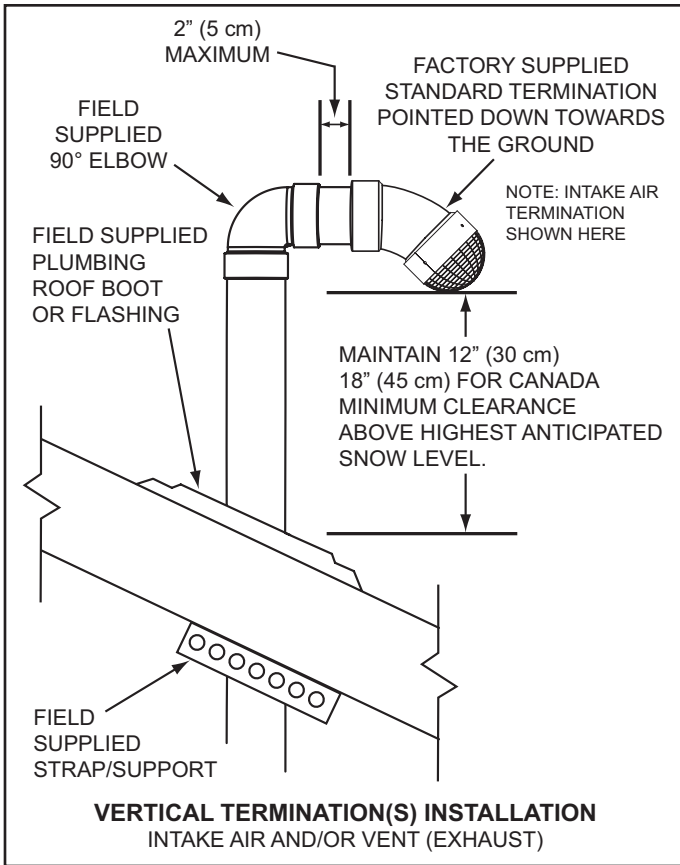
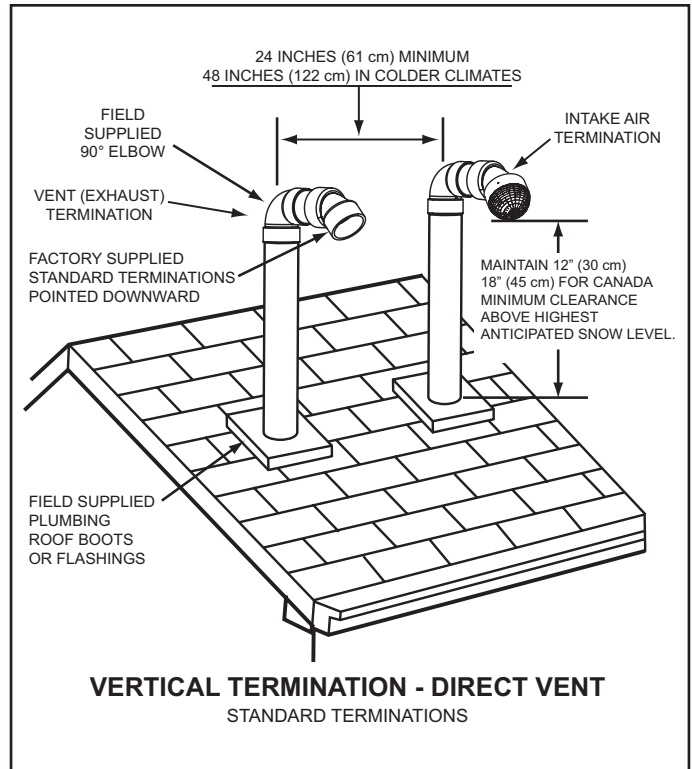
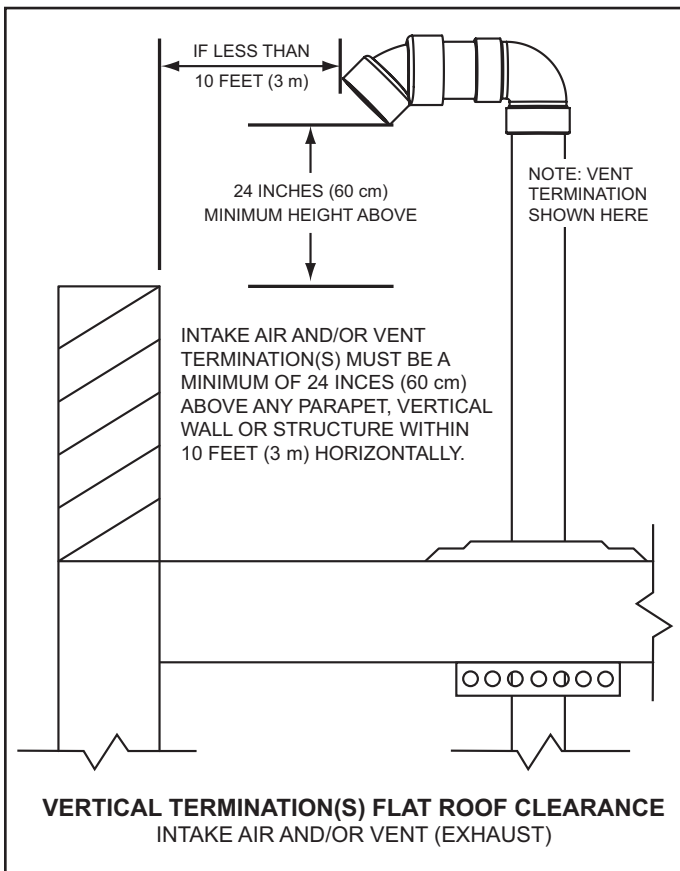

Figure 19
Figure 21
Figure 20
2. If installing only the vent (exhaust) piping in a Power Vent configuration vertically through the roof; ensure that all exterior vertical clearance requirements shown in Figure 19 and Figure 20 on page 26 are being maintained. These clearances and those cited by local and national codes must be maintained.
NOTE: On flat roof installations the vent termination must be a minimum of 24 inches (60 cm) above any parapet, vertical wall or structure within 10 feet (3 m) horizontally. See Figure 20 on page 26.
3. If installing both intake air and vent piping in a Direct Vent configuration vertically through the roof; ensure that all exterior vertical clearance requirements shown in Figure 19 and Figure 20 on page 26 are being maintained. These clearances and those cited by local and national codes must be maintained.
NOTE: On flat roof installations the intake air and the vent terminations must be a minimum of 24 inches (60 cm) above any parapet, vertical wall or structure within 10 feet (3 m) horizontally. See Figure 20 on page 26.
The vent termination must be oriented facing downward as shown in Figure 19 and Figure 20 on page 26.
The bottom edge of the vent termination must be a minimum of 12 inches (30 cm), 18 inches (45 cm) in Canada, above the average or expected snow level as shown in Figure 19 on page 26.
The intake air and vent pipes must penetrate the same side of the roof as shown in Figure 21 on page 26.
The intake air and vent terminations must be oriented facing downward and in the same direction as shown in Figure 21 on page 26.
The intake air and vent terminations must have a minimum separation of 24" (61 cm) measured on center line as shown in Figure 21 on page 26. In colder climates this separation should be increased to at least 48 inches (122 cm).
The bottom edge of the intake air and vent terminations must be a minimum of 12 inches (30 cm), 18 inches (45 cm) in Canada, above the average or expected snow level as shown in Figure 19 and Figure 21 on page 26.
The distance between the closest vent and intake air terminations must be a minimum of 24 inches (61 cm) as shown in Figure 21 on page 26. In colder climates this separation should be increased to at least 48 inches (122 cm).
8. Suspend the pipe(s) through center of hole using field supplied metal strapping or equivalent support materials as shown in Figure 19 on page 26.
9. Slide a roof boot or equivalent flashing over the pipe and secure roof boot or equivalent flashing to roof and seal around the flashing as shown in Figure 19, Figure 20 and Figure 21 on page 26.
10. Install the factory supplied intake air and/or vent termination(s) using field supplied pipe and one field supplied 90° elbow as shown in Figure 19 on page 26. The short section of pipe that connects between the field supplied 90° elbow and the factory supplied termination must not be excessive in length. The exposed portion of this pipe shall be no more than 2 inches (5 cm), see Figure 19 on page 26.